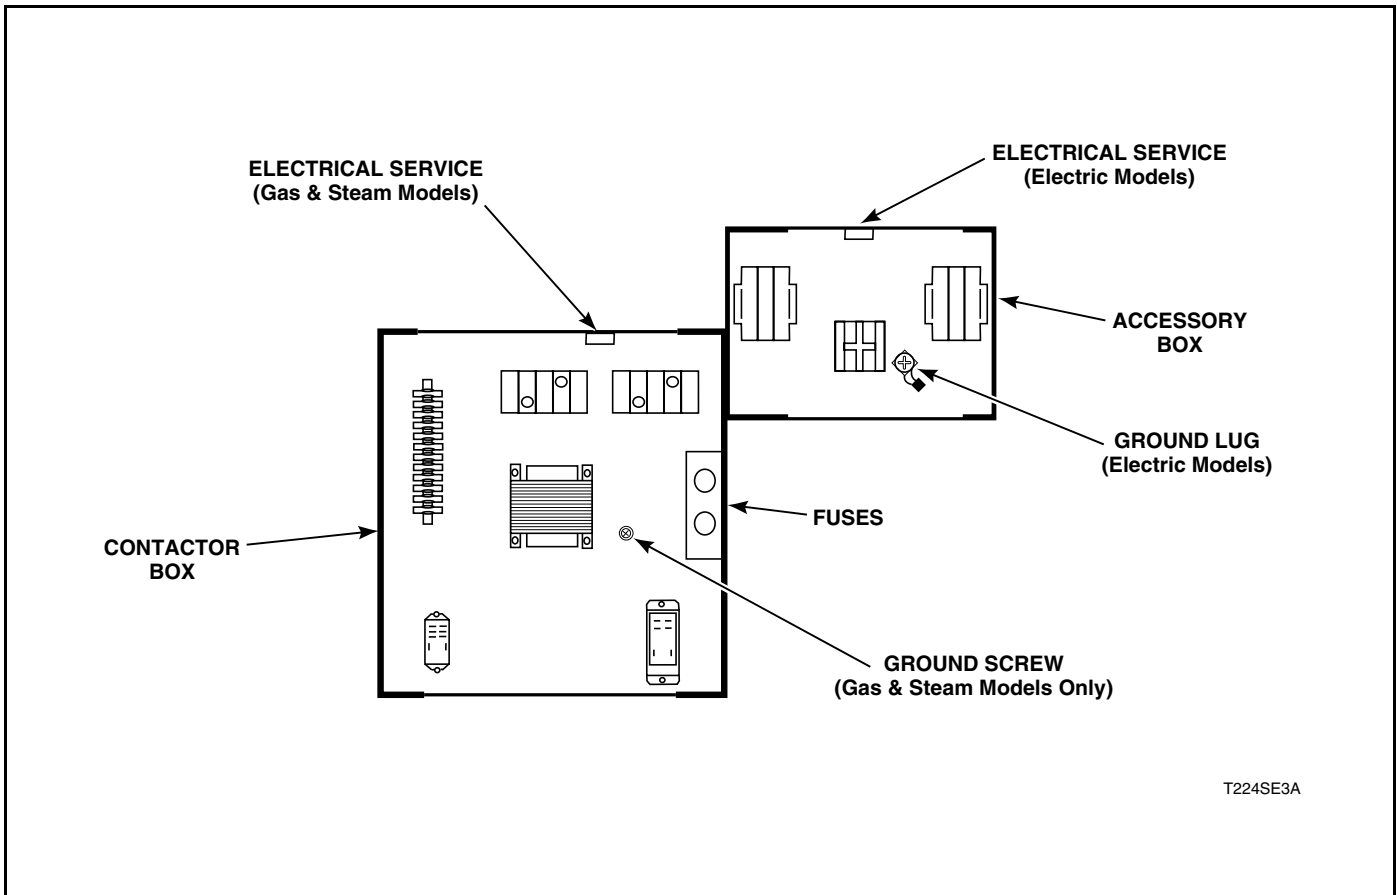

Figure 10
2. Connect the conduit-encased leads to the disconnect switch, or circuit breaker. Connect the wire leads to the appropriately labeled terminal on the terminal block. The ground wire must be connected to the ground connection. Refer to *Figure 10*.